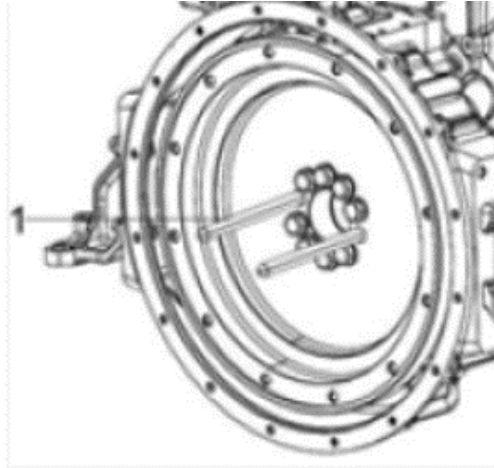

Figure 89.
3. Fit the flywheel guides (Figure 89, Item 1) into the opposed flywheel bolt holes.